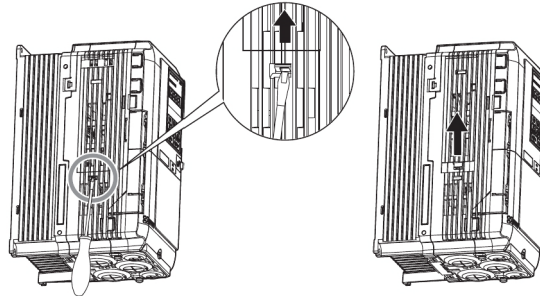

Figure 6: Remove the Connector Cover
1. Shut off power to the drive, wait the appropriate amount of time for voltage to dissipate, then remove the connector cover by pushing on the connector tab and sliding the cover towards the top of the drive as indicated by the arrow in Figure 6.